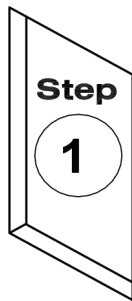

Figure 2 Prepare rough opening.
Step 1. Prepare rough opening and surrounding wall surface. Surfaces should be clean, dry and smooth. The rough opening should not have any gaps, sharp edges or protrusions. There should be no voids, damaged or unsupported areas. Any damage should be repaired prior to installation. (see Figure 2).